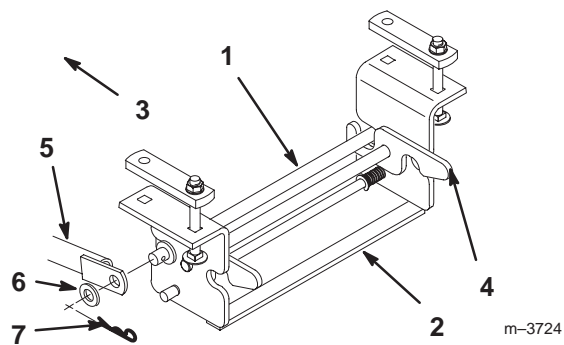

Figure 29
7. Remove the other ends of the two support braces from the rear Attach-A-Matic™ hitch mount by removing the hairpin cotters and washers (Fig. 29).
8. Release the latches on the rear Attach-A-Matic™ hitch and remove the support rod link (Fig. 29).